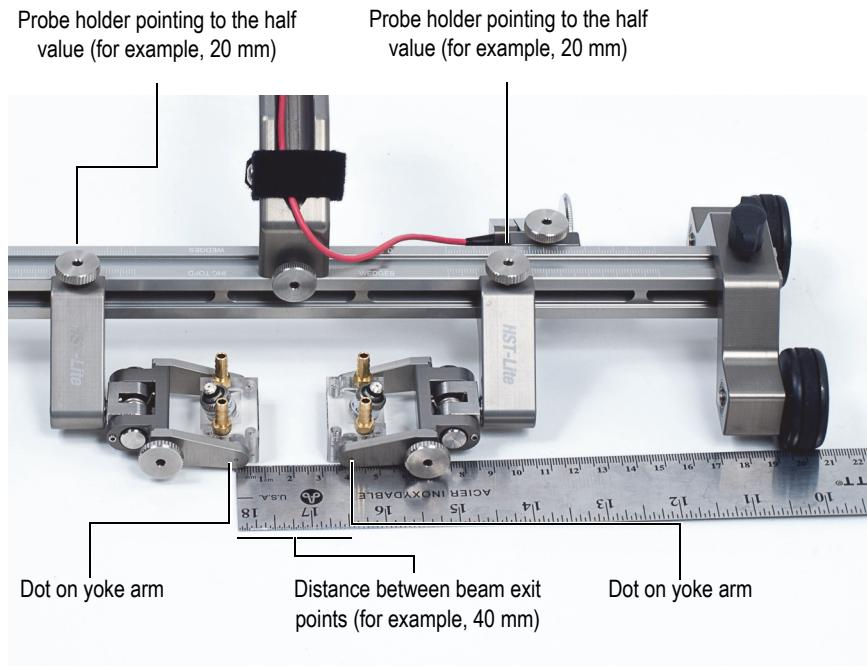

Figure 1-8 Distance between beam exit points (Rexolite wedges shown)
3. Position the probe holders so their indicators point to the half value (for example, 20 mm) on the left- and right-hand side frame rulers (see Figure 1-7 on page 24 and Figure 1-8 on page 25).
- ◆ When using Rexolite wedges, measure the distance between the dots engraved on yoke arms (see Figure 1-8 on page 25).